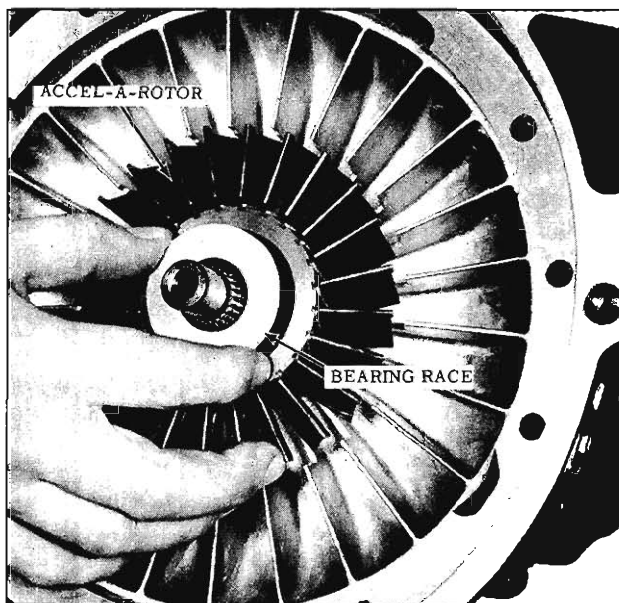

Fig. 6-110 Installing Bearing Race
5. Install driven torus to Accel-A-Rotor rear bearing race into Accel-A-Rotor. (Fig. 6-110)